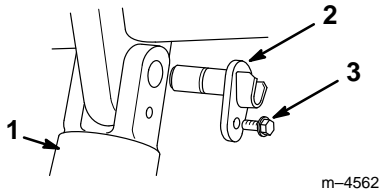

Figure 5
1. Remove the bolt securing the upper tilt cylinder pin (Fig. 5).